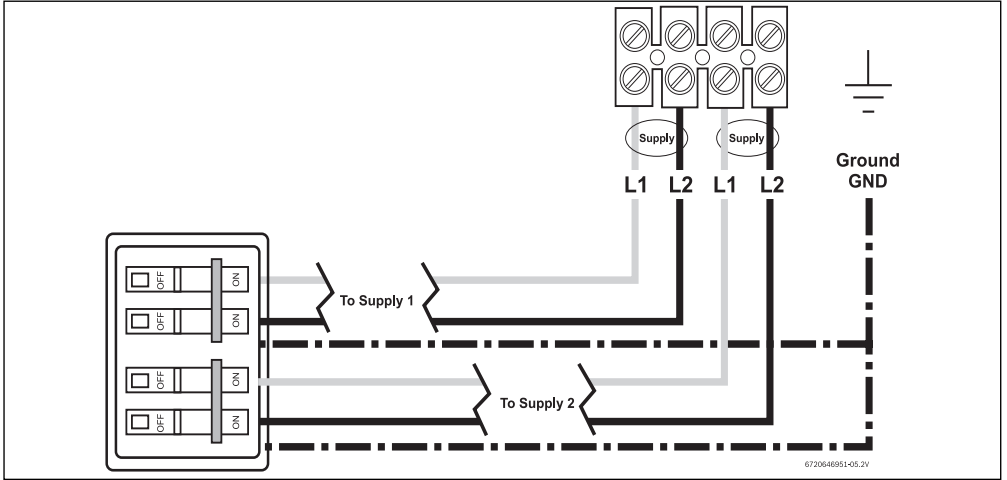
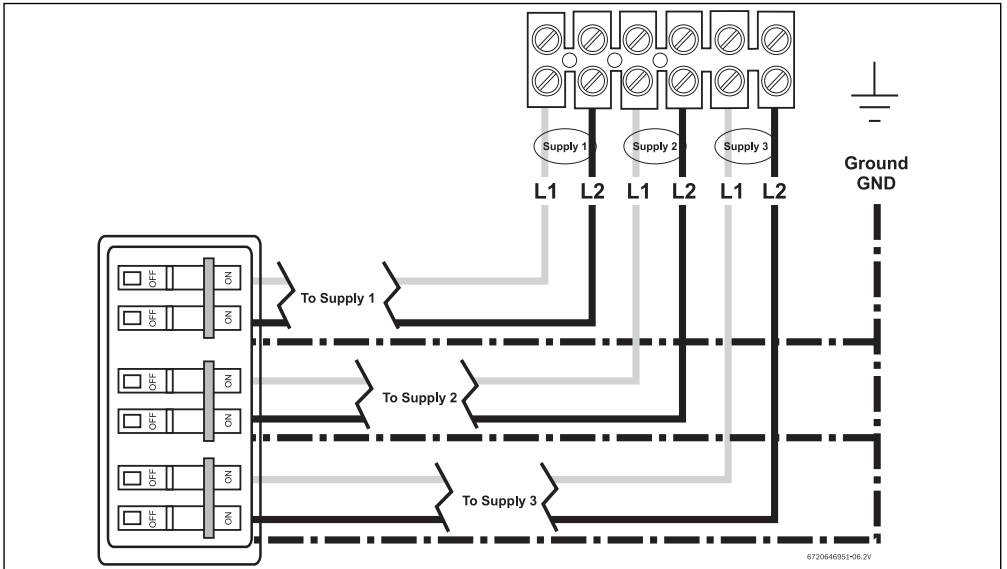

Fig. 7 WH17 terminal block connection (U.S.A. only)
Fig. 8 WH27 terminal block connection (U.S.A. only)
- Strip back the insulation on the power wires about ½ inch. Connect the live wires to the terminals marked "L1" and "L2." There are two pairs of live wires in the WH17 and three pairs of live wires in the WH27. (→See Fig. 7 and Fig. 8, page 14).
- Any insulation on the ground wires should be stripped back about ¾ inch. The ground leads must be connected to the pillar terminal marked "GR". (→See Fig. 7 and Fig. 8, page 14).